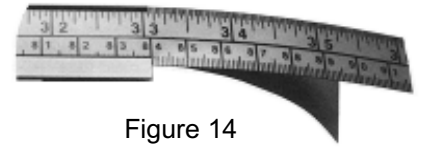

Figure 14
7. The scale in the **Right Squaring Arm** has pressure sensitive adhesive on the underside. Slide the scale out to the right several inches. Peel off 4" of the protective paper from the adhesive and slide the scale back to the left, but do not set the adhesive yet. See Figure 14.